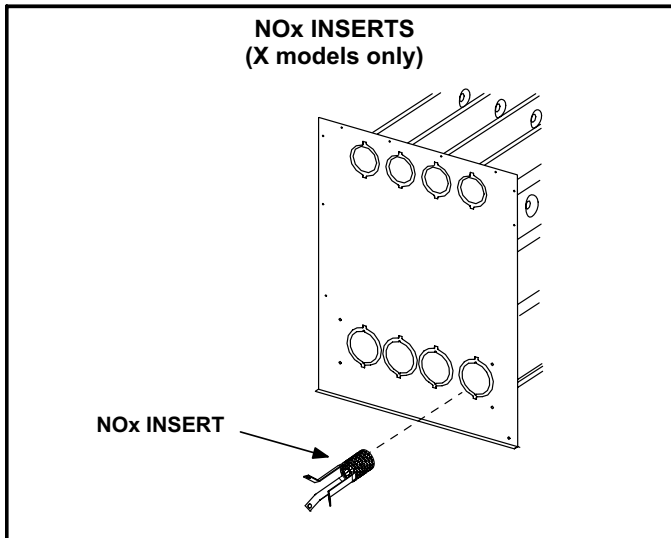

FIGURE 31
- 7 - **NOx units only** - Remove the three screws that attach the NOx insert to the corbel at the entrance to each heat exchanger section. Carefully remove the NOx insert from each section. See figure 31.
- 15- **NOx Units** - Reattach the NOx inserts to the corbels at the entrance to each heat exchanger opening. See figure 31.